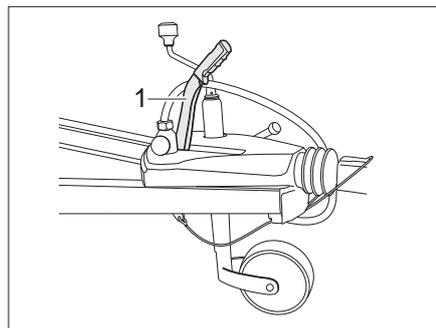

Fig. 13 Handbrake
- To release, pull the brake lever (Fig. 13,1) up and then lower it.